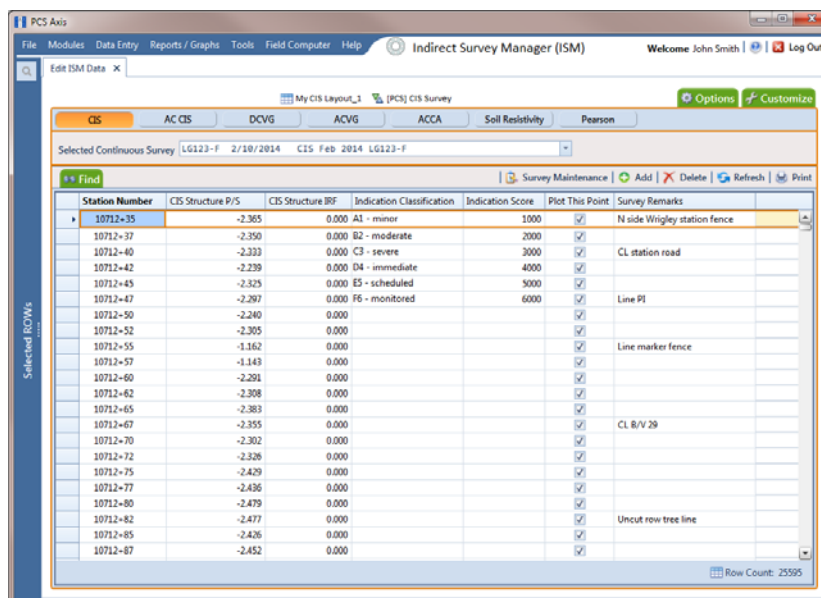

Figure 7-77. Edit ISM Data
- 3 Click **Data Entry > Edit ISM Data** to open the ISM data entry grid. Then click a button labeled with the type of continuous survey data you want to work with, such as the **CIS** button  (Figure 7-77).